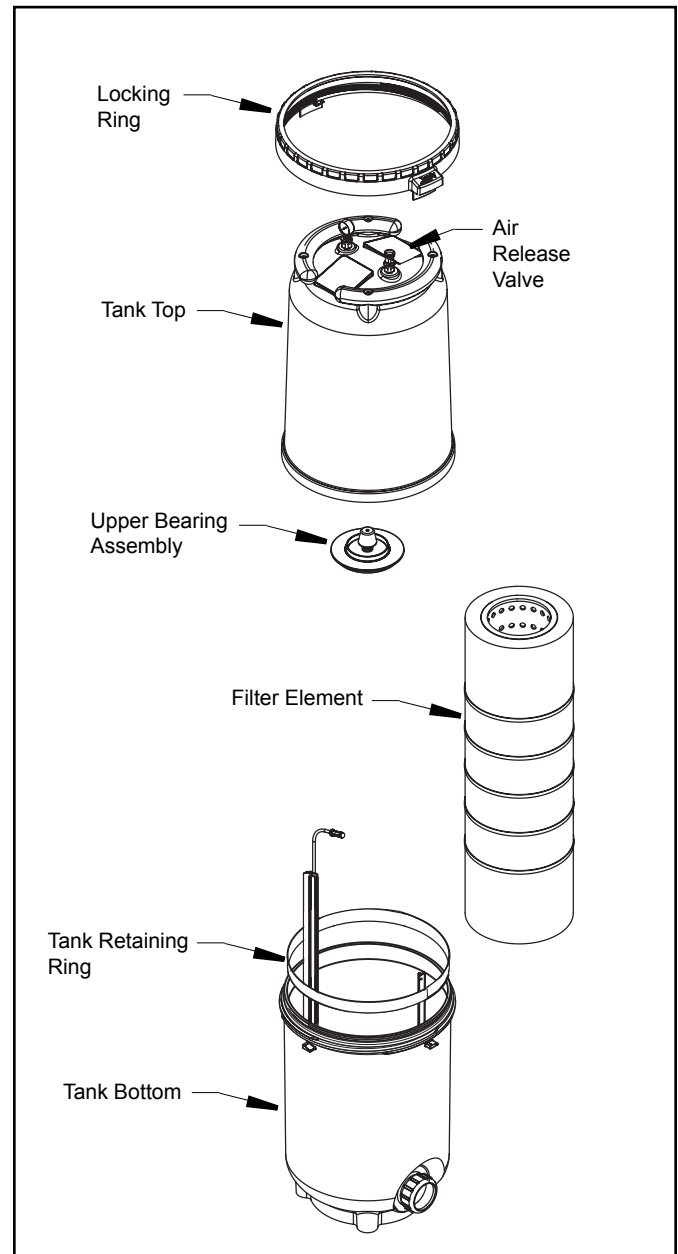

Figure 6. Filter Element Removal
2. Open air release valve on top of the filter tank to release all pressure from inside the tank and system (see Fig. 6). Close any filter isolation valves on the system to prevent flooding.